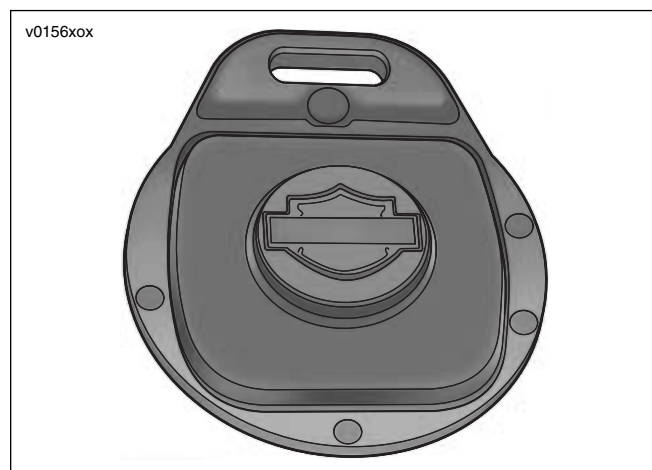

Figure 8-75. Key Fob Assembly (typical)
3. See Figure 8-75. Align case and circuit board as shown. Snap case halves together.